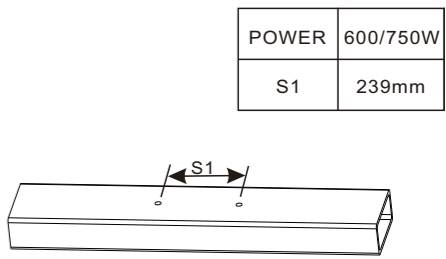

Figure 6
- 2. Drill two holes of distance S1 on the mounting bar (Figure 6).